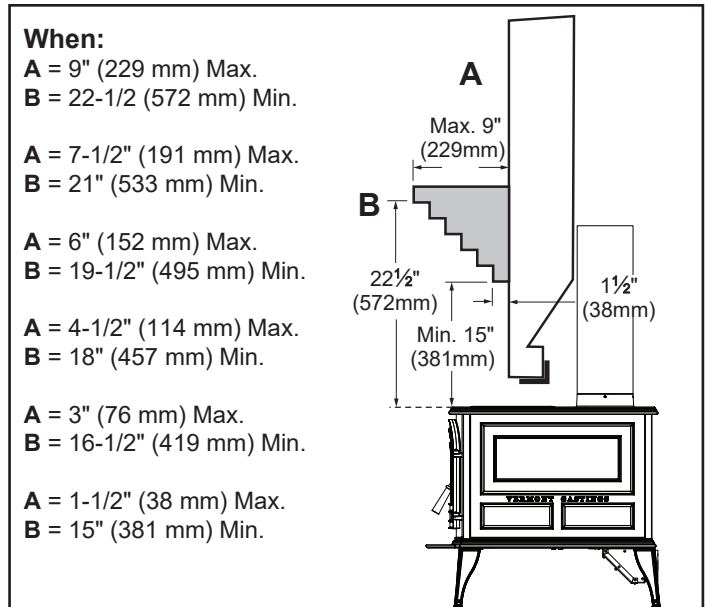

Figure 3.10 - Mantel and trim clearances.
Maximum Mantel depth (A, Figure 3.10) of a combustible mantel is 9" (230 mm). At that depth, the clearance to the stove top (B) must be a minimum of 22-1/2" (572 mm).